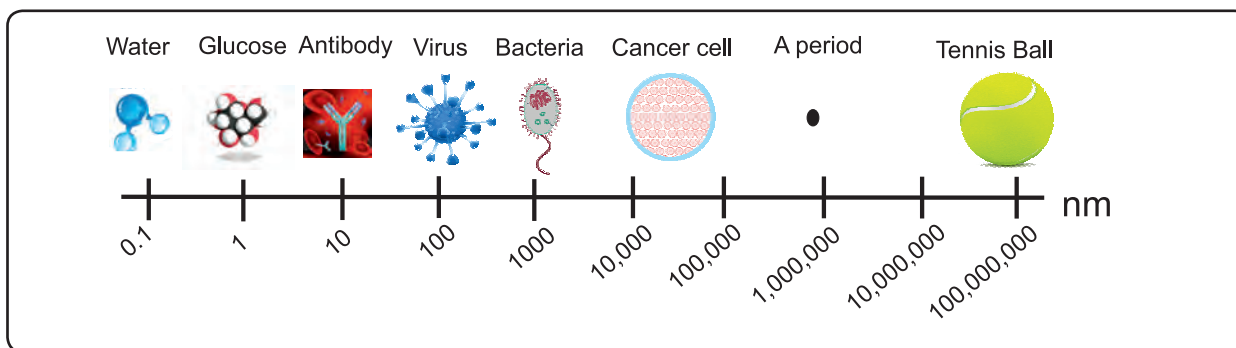
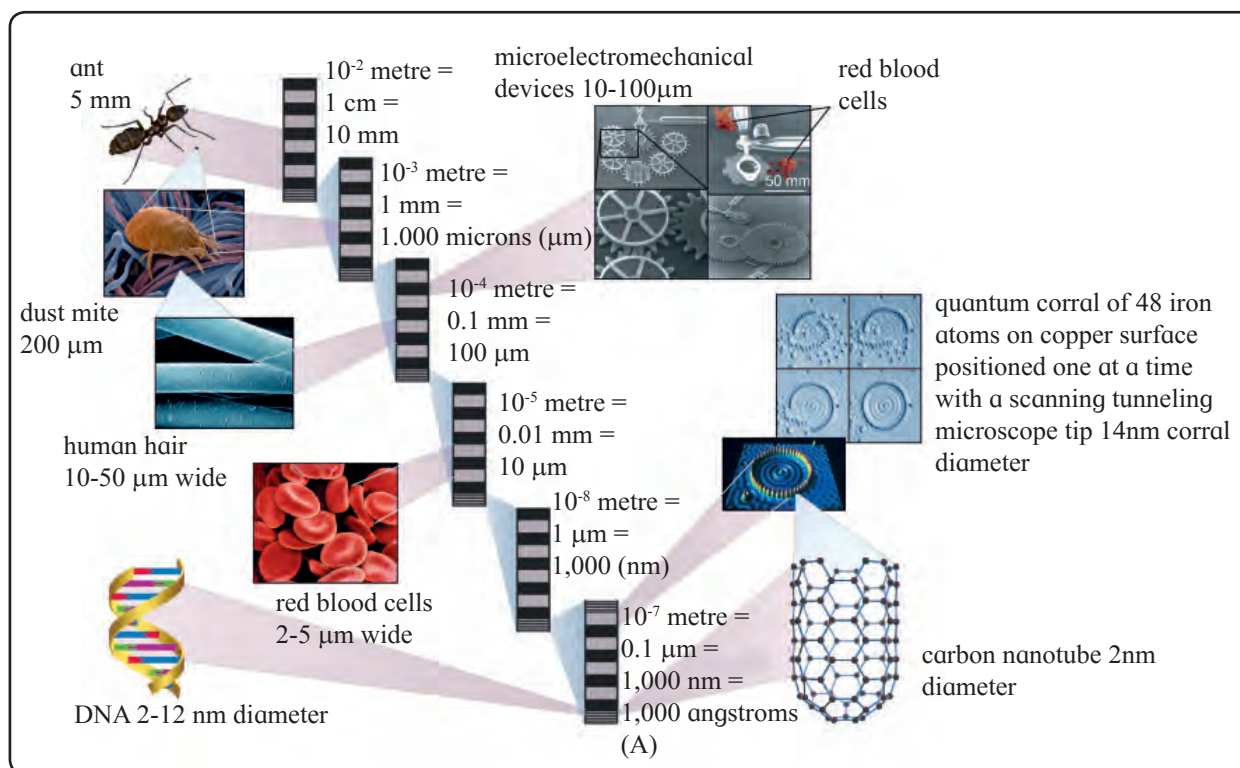

Fig. 16.1 Macro-materials to atoms
Fig. 16.2 Scale of nanomaterials
16.5 Introduction to nano chemistry : From clothes, sunglasses you wear to computer hard drives and even cleaning products, nanotechnology plays a big role in the manufacture of many materials. We have been using Lasers in DVD, CD players for a long time which contain nanosize components. Look at Fig. 16.1 which shows comparative scales from macro-materials to atoms.
Also observe another Fig. 16.2 which depicts the materials in nature, as well as devices that are man made. In both figures some objects like tennis ball (Fig. 16.1), ant, human hair (Fig. 16.2) we can see with our own eyes whereas bacteria, virus, red blood cell, we can not observe with naked eye. These are known as nanomaterials.